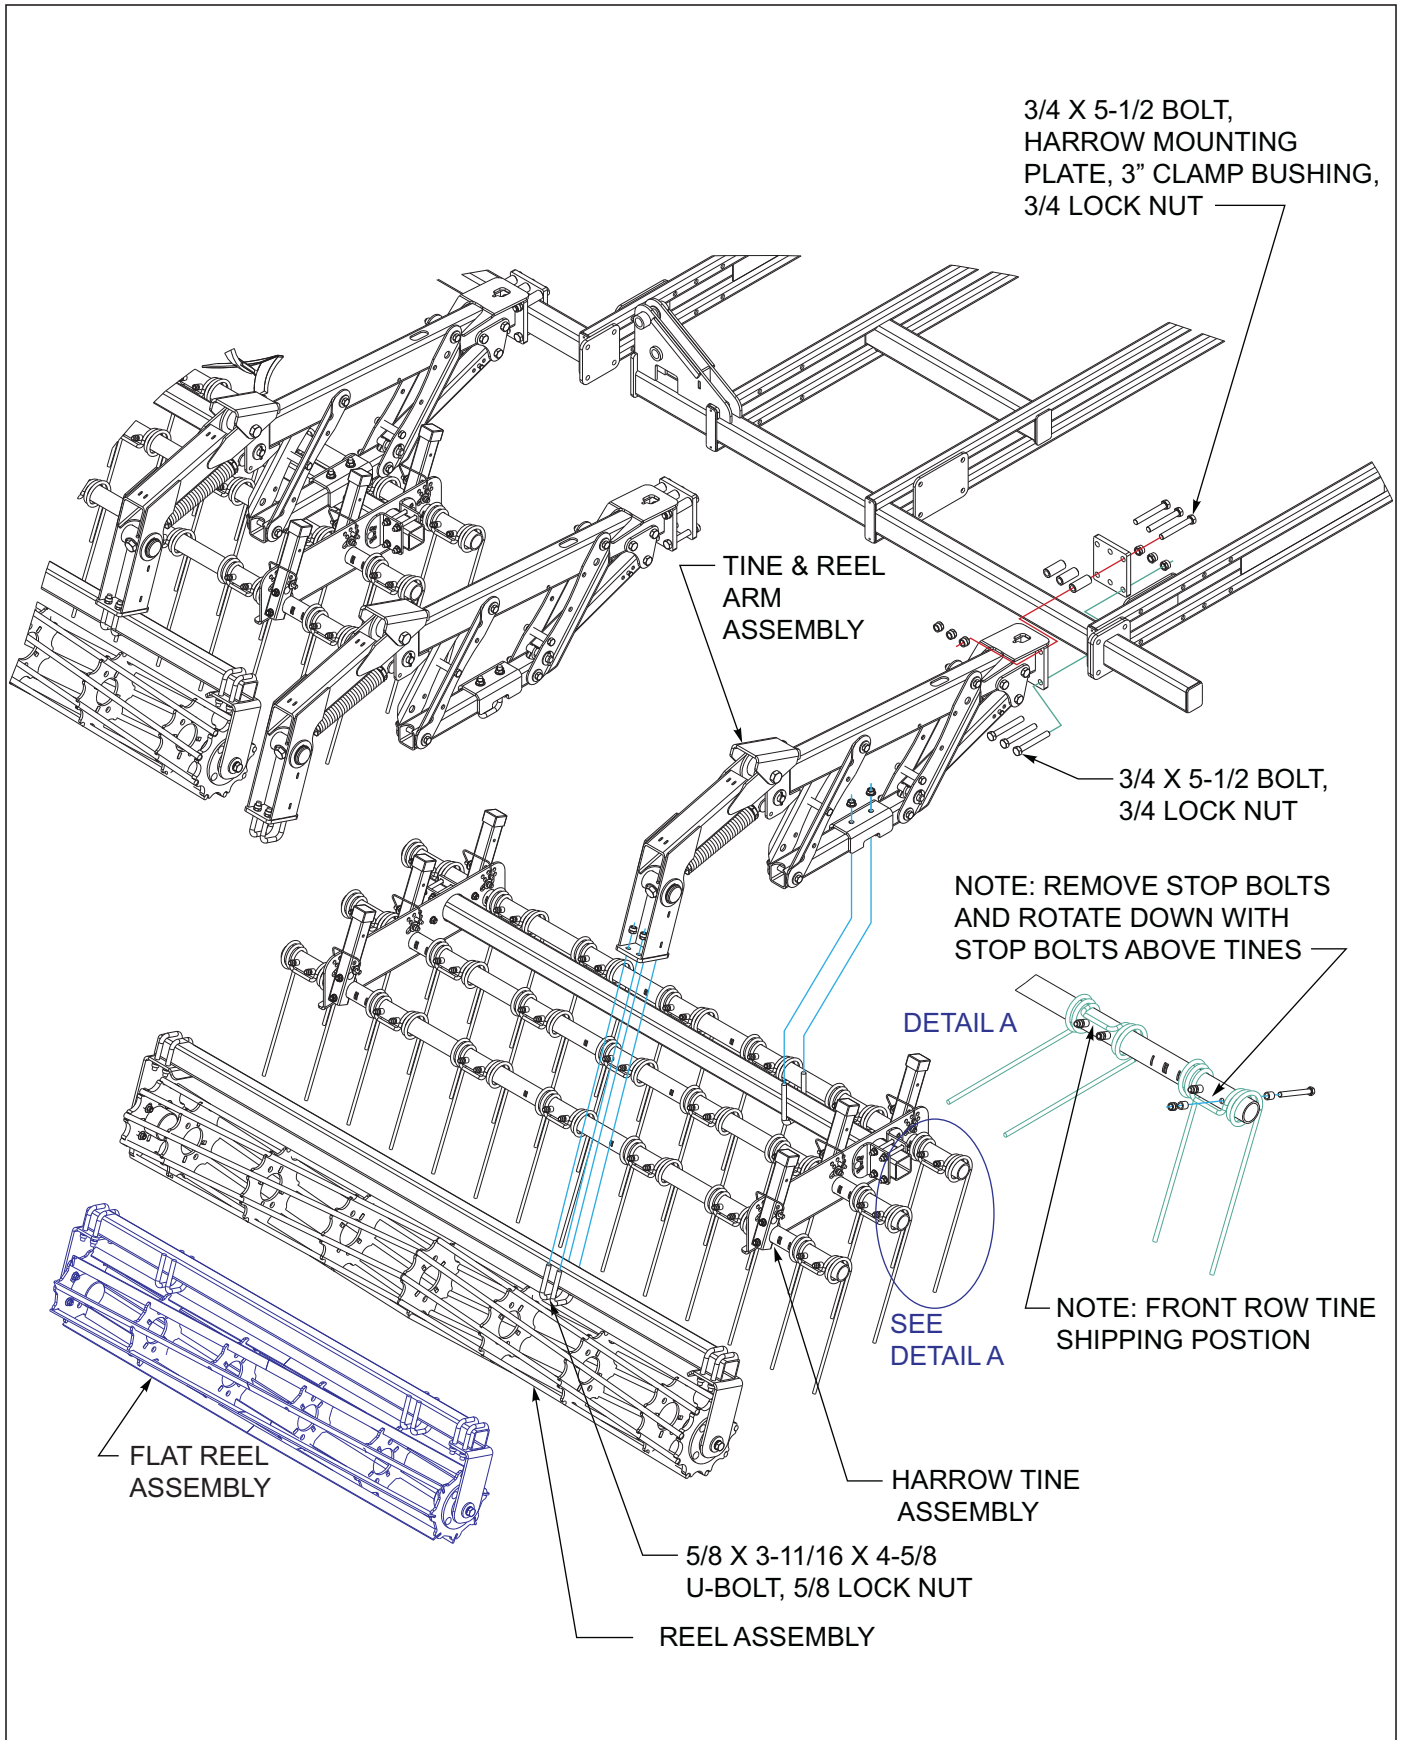

Figure 3-29: 3 Row Coil Tine and Reel Harrow Installation
1. Attach the tine/reel arm assemblies to the rear tube of the center and wing frames using harrow mounting plates, 3/4 x 5-1/2 bolts, clamp bushings and 3/4 lock nuts *See Figures 3-29*. Clamp bushings are installed on the top mounting bolts.